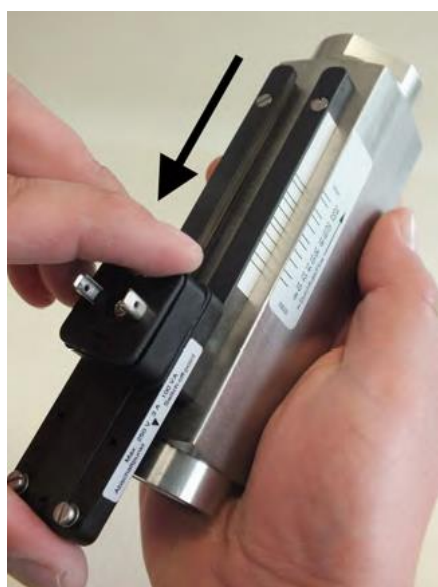

Fig. 74: Remove switch contact from guide rails
- 4.** ► Remove the switch contact from the guide rails by sliding the switch contact in the direction of the arrow (Fig. 74).